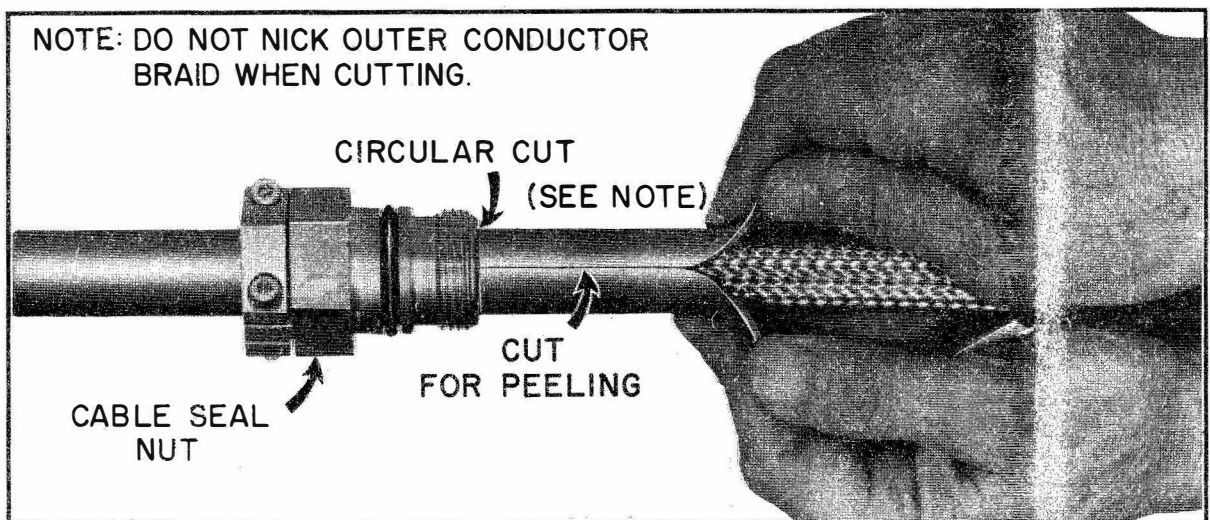

Figure 5-9c. Removing Cable Jacket
Step 3. - Using the end of the cable seal nut as a guide, make a circular cut around the cable jacket 6.0 inches from the cable end. Make a cut the length of the 6 inch section and remove the jacket as illustrated in figure 5-9c.